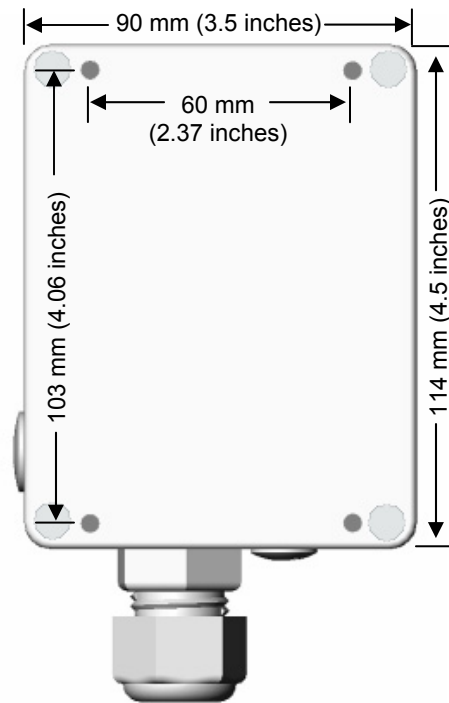

Figure 10: Dimensions for mounting pattern
- If mounting the logger to a post or wall, note that it is 60 x 103 mm (2.37 x 4.06 inches) between the center of the holes on the back of the logger. See Figure 10 on page 23.
2. There are four holes next to each of the four screw holes used to attach the clear cover as shown below. Screw in the four Phillips-head screws through the inside of the case into the flat surface. Use the dimensions in Figure 10 for determining where to drill holes on the mounting surface.